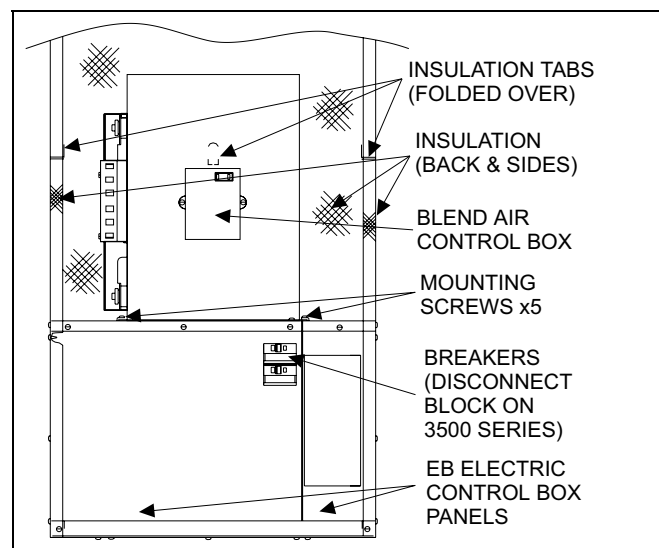

FIGURE 4
4. Remove the five blower mounting screws and slide the blower halfway out of the front of the furnace. See Figure 4.
1. Install insulation tabs to casing sides and back with screws provided. Screw holes for tabs are prepunched below the two sets of holes for coil support. See Figure 4.
2. Spray adhesive (3M Super 77) to the casing insulation (if needed). Casing insulation is provided with this kit. Then secure insulation in furnace casing with coated side visible. Tuck insulation inside casing front edges. Push insulation tabs through the insulation. Be sure to fold tabs back over to secure insulation to casing sides and back. See Figure 4.
If our “Standard” or “Deluxe” Blend Air systems are installed on this furnace then you should have a Blend Air Control Box mounted on the furnace blower. See Figure 4.
Loosen the screws on the two EB electric control box panels in the furnace. See Figure 4. Place the slotted ends of the two coil shelf panels (provided) on the loosened screws behind the control box panels. See Figure 4. Line up the holes in the coil shelf panels with the holes in the coil shelf and secure with the screws provided. See Figure 4, 5 & 6. Make sure that the insulated sides of the panels are towards the blower compartment.
5. Reinstall the five blower mounting screws to secure the blower to the furnace. See Figure 4.